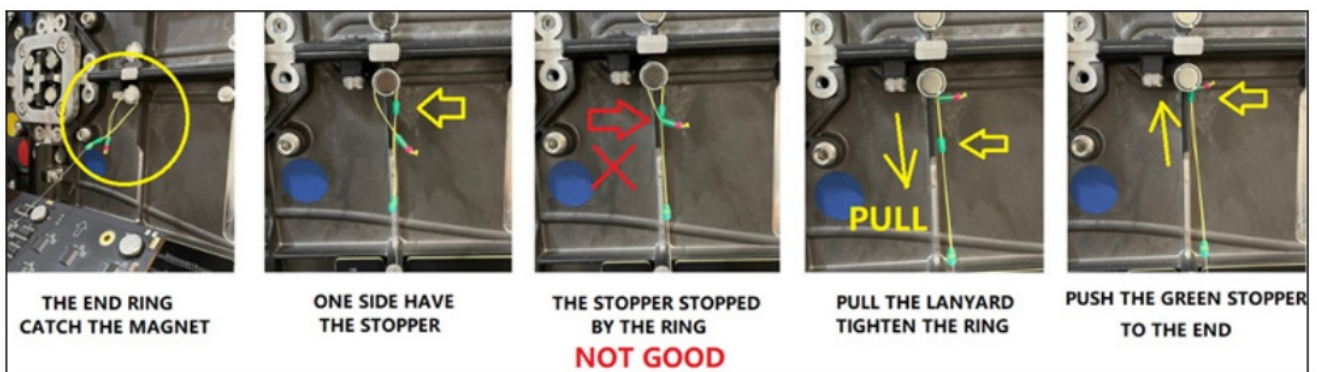

Figure 14: Install the Lanyard
4. Install the lanyard on the cabinet. Refer to Figure 14.